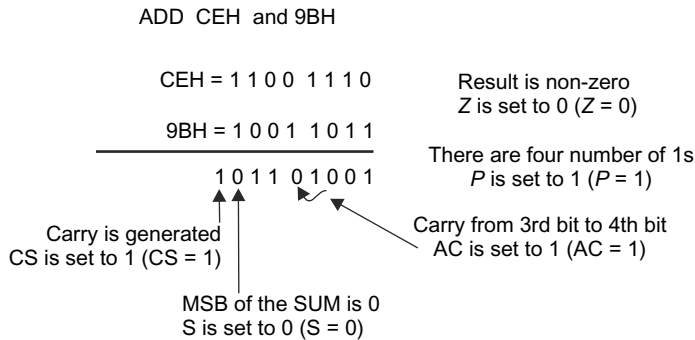

Fig. 2.9 Status of different flags after addition of CEH and 9BH
If CEH and 9BH are added, the result is non zero. Hence, the Z flag is set to 0. There is a carry from 3rd bit to 4th bit. As a result, the auxiliary carry (AC) flag is set to 1. Since the MSB of the sum is 0, the S flag is set to 0. As there are four numbers of 1s in the result, the parity flag (P) is set to 1. The carry is generated after addition of CEH and 9BH as the sum is greater than 8 bits. Therefore, CS is set to 1. Figure 2.9 shows the status of different flags after addition of CEH and 9BH.
The address on the higher-order bus remains on the bus for the entire machine cycle. But the lower-order address is changed after the first clock cycle. Actually, this address is latched and used for identifying the memory address. The AD_7 – AD_0 is used to identify the memory location. Figure 2.9 shows the address bus A_{15} to A_0 after latching operation. When ALE signal is low, the data is latched till the next ALE signal. The output of the latch represents the lower-order address bus A_7 – A_0 . If ALE is high, the latch is transparent. This means that the output changes according to input data.